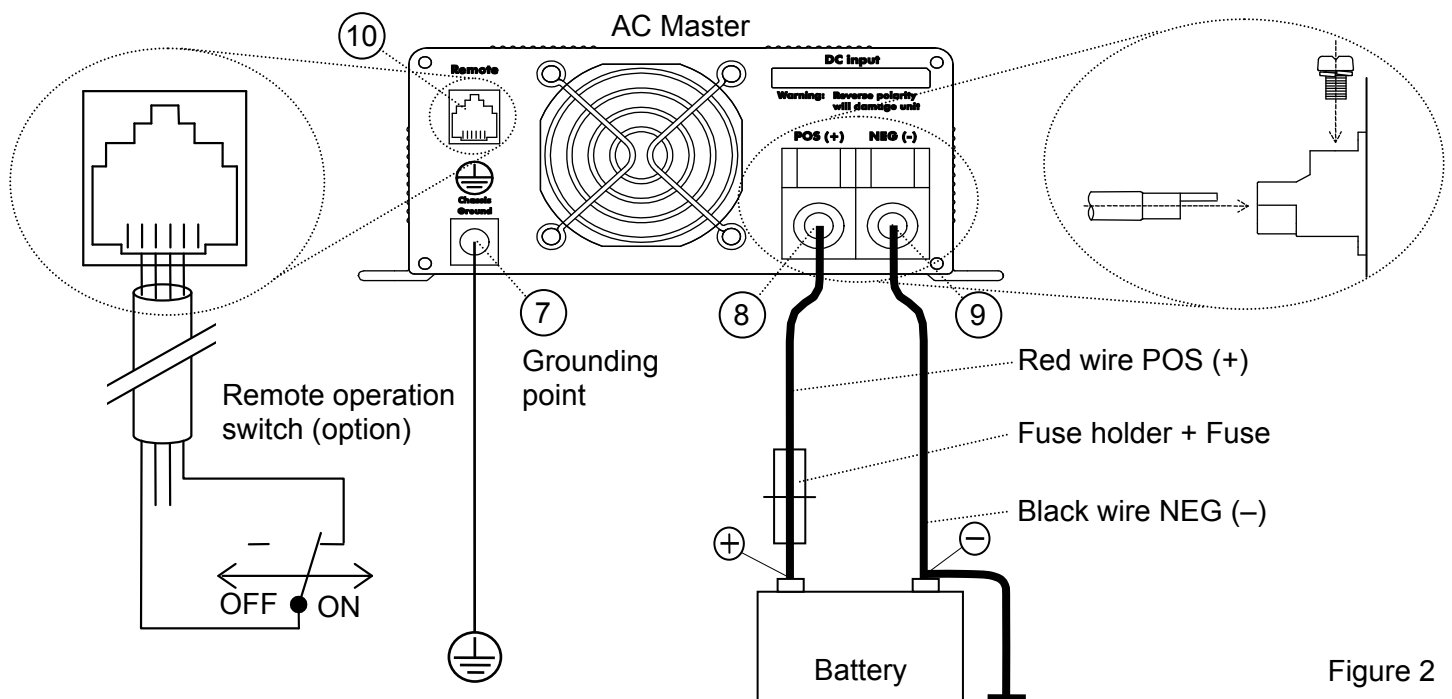

Figure 2
- Connect DC wiring as shown in figure 2: the black terminal (9) NEG (-) to the negative (-) pole of the power source / battery, the red terminal (8) POS (+) to the positive (+) pole of the power source/ battery. Integrate a DC fuse holder in the positive wiring, but do not place the fuse yet. Assemble the DC wiring exactly as indicated. Do not place anything between the ring terminal and the terminal surface. Make sure that all DC connections are tight. Recommended torque: 11.7-13 Nm / 104-115 InLbs
- Chassis ground: Use a cable AWG8 / 6 mm² to connect the CHASSIS GROUND terminal (7) to the central ground.
- NOTE: the neutral connector N of the AC output (ref. 2) is NOT connected to the CHASSIS GROUND terminal (ref. 7).
- Remote operation switch (option). If you want to operate the AC Master on a remote location, you can install a switch as indicated in figure 2. When the contact is closed, the AC Master is switched on.